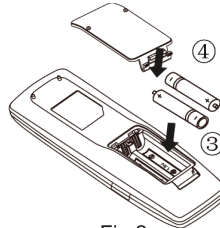

Fig.2
- (3) Place two 7# (AAA 1.5V) dry batteries, and make sure the position of "+" polar and "-" polar is correct (as shown in Fig 2 ③).
- (4) Reinstall the cover (as shown in Fig 2 ④).